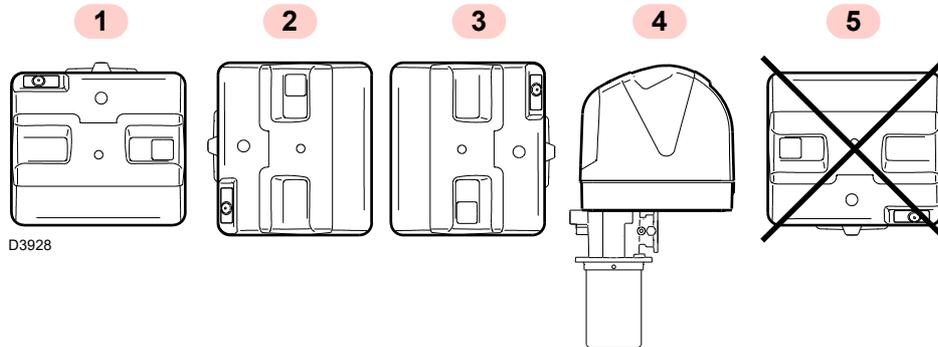

Fig. 12
- The burner is designed to operate only in positions **1, 2, 3** and **4** (Fig. 12).